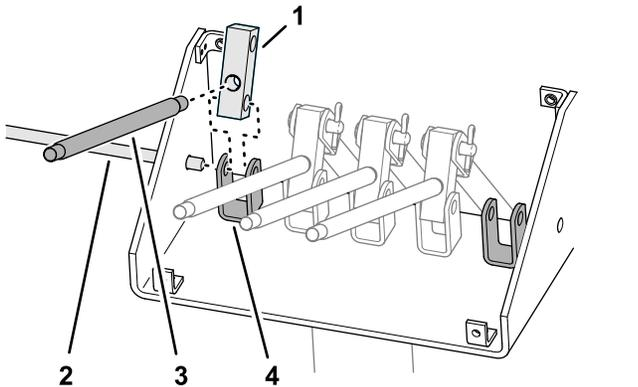

Figure 25
2. Assemble a lever into a lever block (Figure 25).
3. Align the hole in the lever block with the holes in the leftmost control-link bracket (Figure 25).